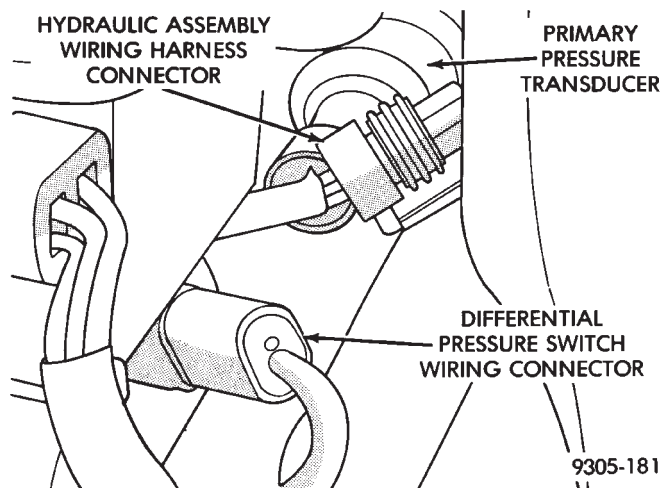
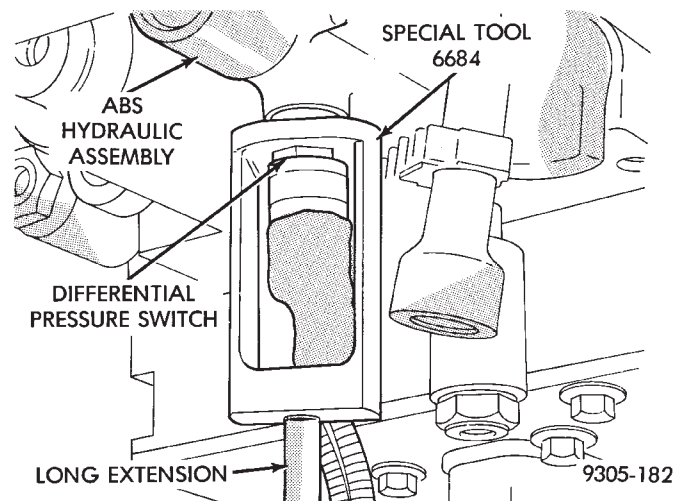

Fig. 13 Primary Pressure Transducer And Differential Pressure Switch Wiring Harness Connectors
Fig. 14 Differential Pressure Switch Removal And Replacement
(2) Disconnect the hydraulic assembly wiring harness connector from the primary pressure transducer (Fig. 13).
(3) Disconnect differential pressure switch wiring harness connector from hydraulic assembly wiring harness (Fig. 13). **Do not attempt to remove wiring harness from differential pressure switch.**
(4) Raise vehicle on a frame contact type hoist. See Hoisting in the Lubrication And Maintenance section of this manual, for the required lifting procedure to be used for this vehicle.
(5) Using a long extension and Socket, Special Tool 6684 loosen and remove differential pressure switch from bottom of hydraulic assembly (Fig. 14)
(2) Lower vehicle
(3) Connect differential pressure switch wiring harness connector into hydraulic assembly wiring harness (Fig. 13).
(4) Connect the hydraulic assembly wiring harness connector into the primary pressure transducer (Fig. 13).
(5) Turn the ignition switch to the on position and let the system pressurize. Check for any signs of leakage at the differential pressure switch.
(6) Fully de-pressurize hydraulic assembly a second time to purge any air out that may have entered hydraulic assembly when differential pressure switch was removed. Turn the ignition switch to the on position and let the system pressurize again.
(7) Fill hydraulic assembly fluid reservoir to the top of the screen on the filter\trainer. Use only fresh clean brake fluid conforming to DOT 3 requirements, such as Mopar® or equivalent.
(8) Road test vehicle to insure that the brake system is performing correctly.